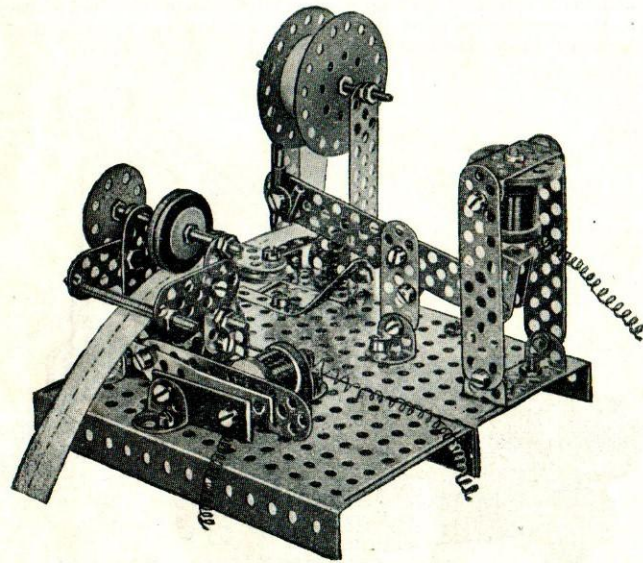
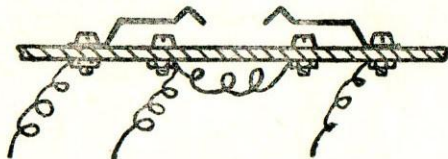

Fig. 1.
Fig. 2.
**Model No. 19. Fig. 1.**
Fig. 1 shows the Crane with Jib turned.
Close to the apparatus two contact brushes, E 7's, are mounted on a small wood board or box lid, Fig. 2. Each contact key is connected up to one end of the two bobbins. The other two ends of the bobbins are secured under a bolt, thus making contact with the framework. A wire leads from the contact bolt of the buzzer, Fig. 1, to one terminal of the battery.
Very thin wire should **not** be used. Bell wire, which can be obtained very cheaply from an electrical shop, is the best kind to use. From the other terminal of the battery a connection is made to the bolts, B 1's of Fig. 2, which lie underneath the contact keys. This means the wire is wound, after it has been carefully scraped, first around one bolt and then around the other.
In this case the wiring remains the same for each apparatus, but in order to save a second battery the middle lead, Fig. 2, must be connected only once from the battery to the buzzer contact bolt. The buzzer contact bolt of the first is connected with the middle lead, Fig. 2, of the second apparatus and also the middle lead of the first with the buzzer contact bolt of the second apparatus.